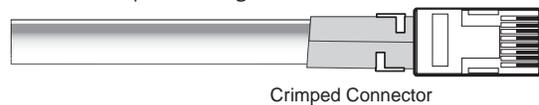

Figure 10. Crimped RJ-45 Connector
5. Feed each individual wire into the appropriate slot of the RJ-45 connector and crimp the cable in the normal manner, folding the tangs at the end of the connector over the shielded tape (see figure 10).